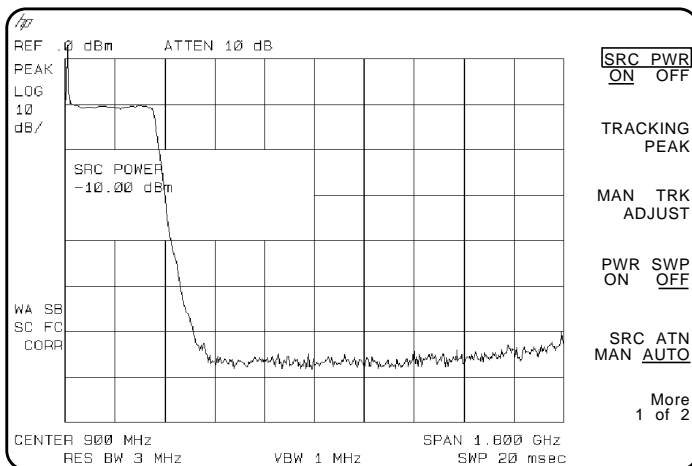

Figure 53 Tracking-Generator Output Power Activated
- 3 Activate the tracking generator menu by pressing **AUX CTRL** and **Track Gen**. To activate the tracking-generator power level, press **SRC PWR ON OFF** until ON is underlined. See Figure 53.